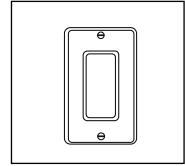

Figure 2
2. Wall switch light memory: (Figure 2)
### Deep-profile use (Figure 2)